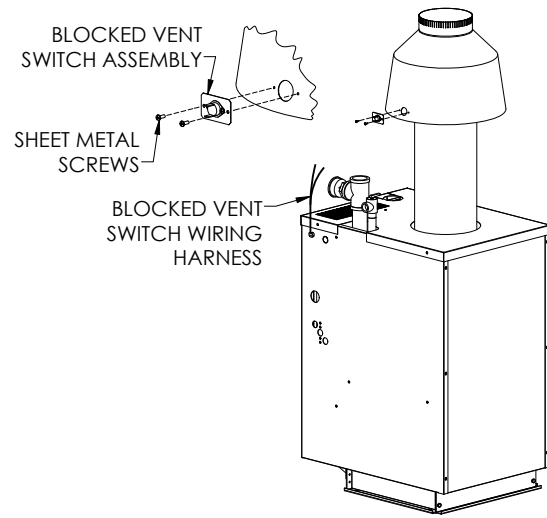

Figure 4.1: Draft Hood and Vent Safety Shutoff Switch Installation
2. Position draft hood with 1" (25 mm) diameter hole in conical portion of draft hood (for vent safety shutoff switch) towards front right corner of boiler. Secure to flue collector with sheet metal screws. See Figure 4.1.
Attach blocked vent switch assembly to draft hood as shown in Figure 4.1. GM-e-05/06 assembly includes a factory installed adapter plate to connect the 5/8" diameter switch to the 1" diameter hole in the draft hood. To adjust harness length, squeeze strain relief bushing to release from jacket. Remove excessive slack in harness.